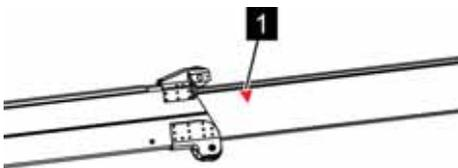

Fig. 99: Red arrows
- Always only retract the telescopic arm until the red arrows (Fig. 99/1) on the bearings are no longer visible.